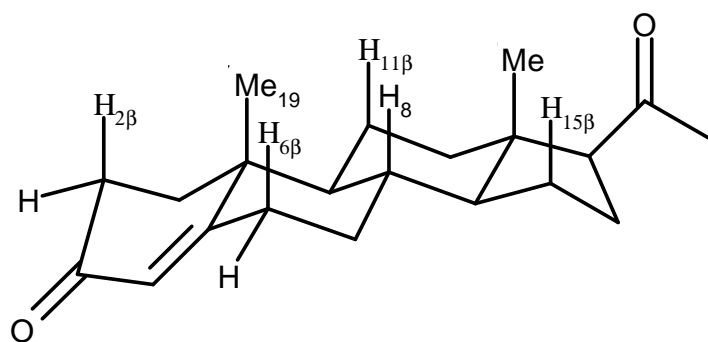
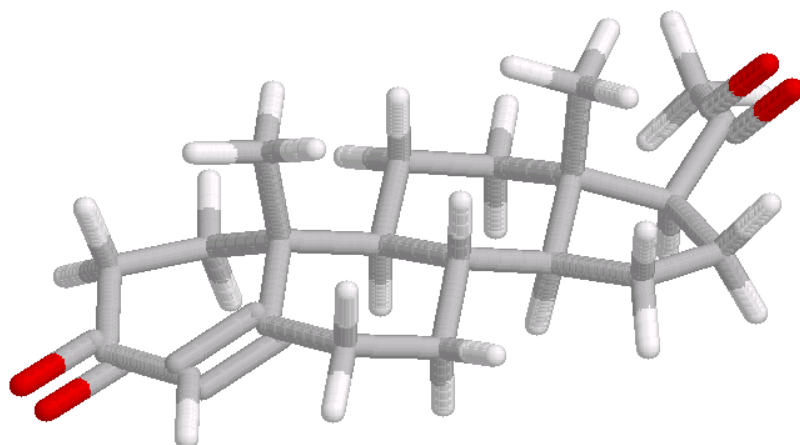

Figure 1. Progesterone
Figure 2. X-ray structure for progesterone from the CSD.
The rings in progesterone can take many conformations. Building a model of progesterone with the proper ring conformations can be difficult. Applying constraints based on NMR data can greatly ease the construction of the proper conformation of the molecule. Distance geometry is an ideal technique for constructing molecules subject to constraints. The purpose of this exercise is to compare distance geometry with template based construction methods. We will use the EMBED program for distance geometry and the CORINA program for the template based approach, with access from the Web for both applications. The structure of progesterone with the conventional atom numbering is shown in Figure 1. The X-ray structure from the Cambridge Structure Database, CSD, is shown in Figure 2, to indicate the proper ring conformations.
Write down the FINAL STERIC ENERGY and compare your results with Figure 2 and 3b. You will probably need to repeat the calculation several times to get the proper ring conformations. Just use the browser Back arrow and click on Submit again. Keep track of the FINAL STERIC ENERGY for each run. You should get the proper ring conformation for the rings around your distance constraints within three or five calculations. Getting the other ring conformations correctly requires a few more calculations. If you don't get all the ring conformations after you have tried 15 times, just stop with any reasonable conformation and believe us that sooner-or-later you would have gotten all the rings correctly.
Template Based Builders: The CORINA program is available on-line through the University of Erlangen-Nürnberg at J. Gasteiger’s Group Web site. A link to this Web site is on the PChem Home Page. On this page scroll down to the JME applet. Paste your Smiles string into the Smiles string dialog box and click on the Generate 3D Structure button. (Alternatively you can draw in the structure using the JME editor.) Compare the CORINA generated structure to Figure 2. How many centers are inverted from the X-ray structure? Generating the structure a second time isn’t useful, since template based builders produce the same result every time. To get all the rings correctly requires the stereochemistry to be included in the Smiles string.⁴ (Don’t bother to do the calculation with the stereochemistry specified.)
- Was the X-ray conformation (Figure 2) the lowest energy conformation?
Figure 2 a. Proline in a protein